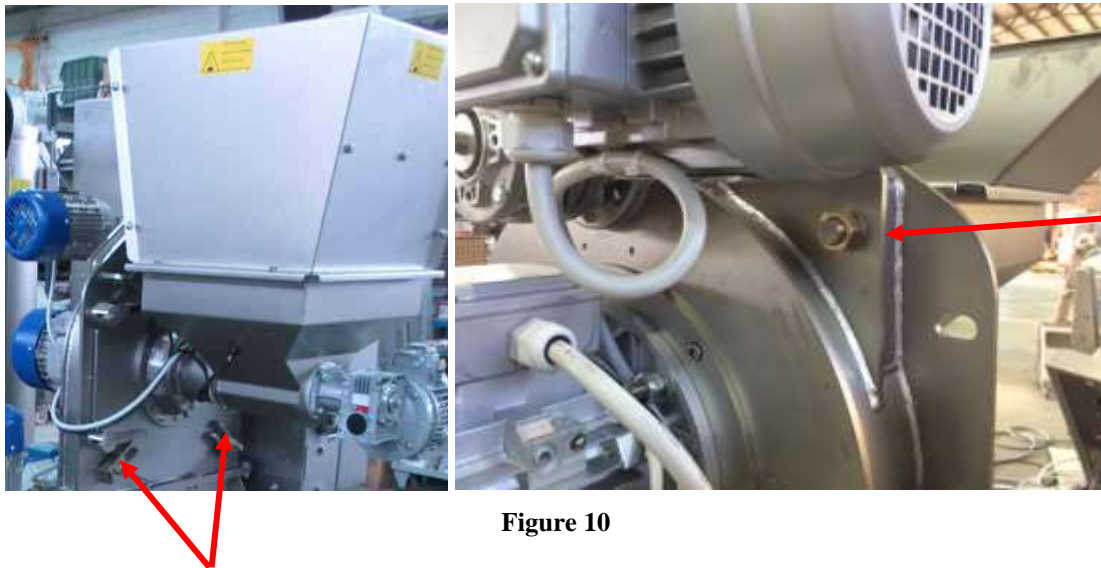

Figure 10
1. Open the crusher and clean inside by hand (Figure 10).